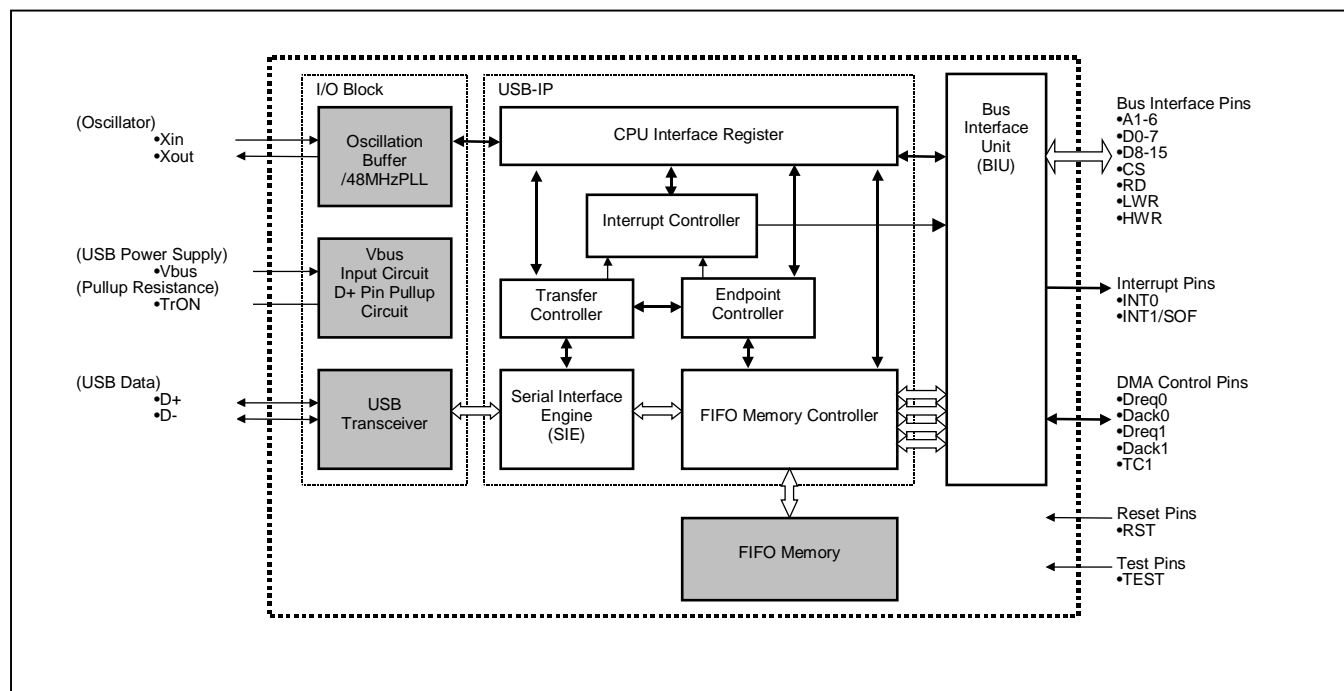

Figure 1.2 M66291 Block Diagram
**Note 3:** The pins for bus interface, interrupt, DMA control, reset and test are all driven by IOVcc. See Figure 1.2.